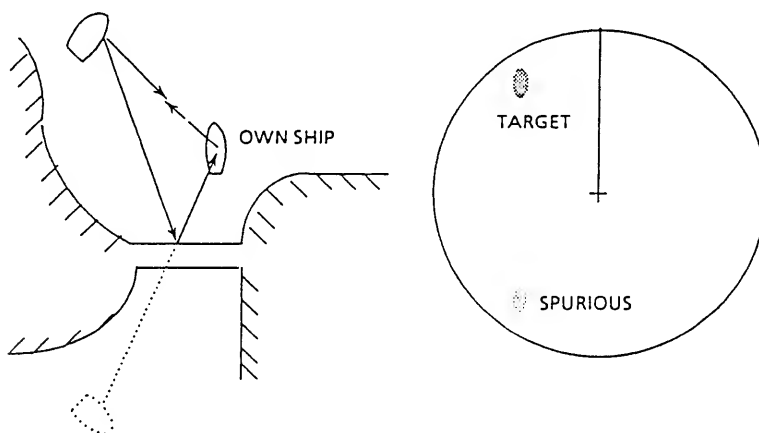

Figure 3-7 Indirect Echoes
Indirect echoes may be returned from either a passing ship or returned from a reflecting surface on your own ship, for example, a stack. In both cases, the echo will return from a legitimate contact to the antenna by the same indirect path. The echo will appear on the same bearing of the reflected surface, but at the same range as the direct echo. Figure 3-7 illustrates the effect of an indirect echo. Indirect echoes may be recognized as follows. (1) they usually occur in a shadow sector; (2) they appear on the bearing of the obstruction but at the range of the legitimate contact; (3) when plotted, their movements are usually abnormal, and (4) their shapes may indicate that they are not direct echoes.